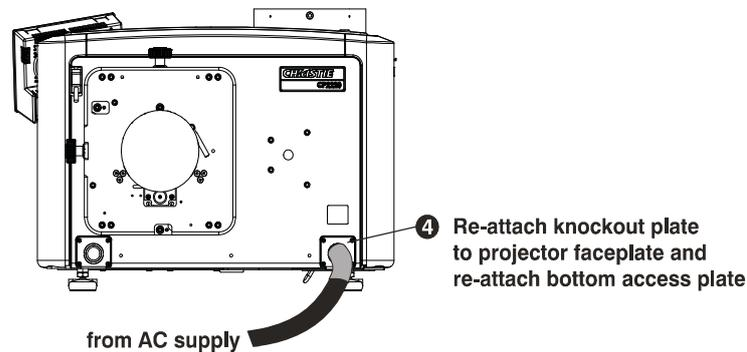

Figure 2-12
- Once all cables are connected, replace the knockout plate and the bottom access panel over the terminal block. (**Figure 2-12**)